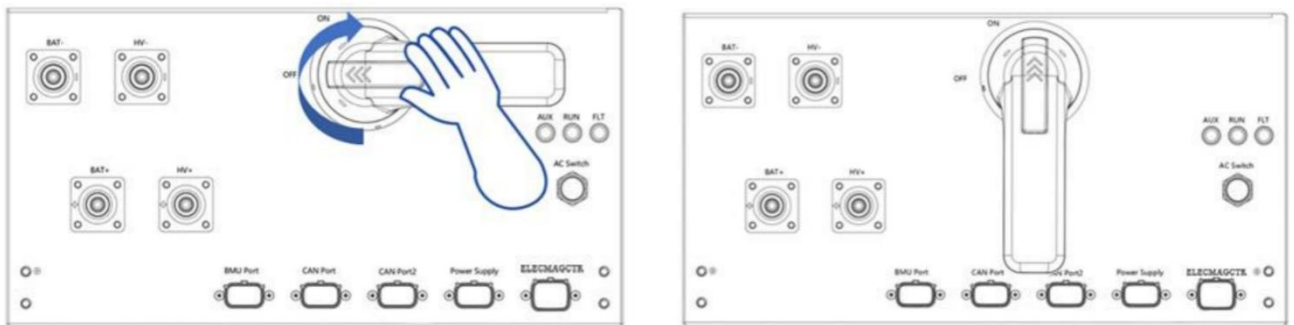

Figure 8-2 Manually switch on high-voltage box
- Manually switch ON the isolation switch for each high-voltage box cluster (hold the handle of the high-voltage box, rotate it 90 degrees clockwise from OFF to ON, as shown in Figure 8-2 Manually switch on high-voltage box).